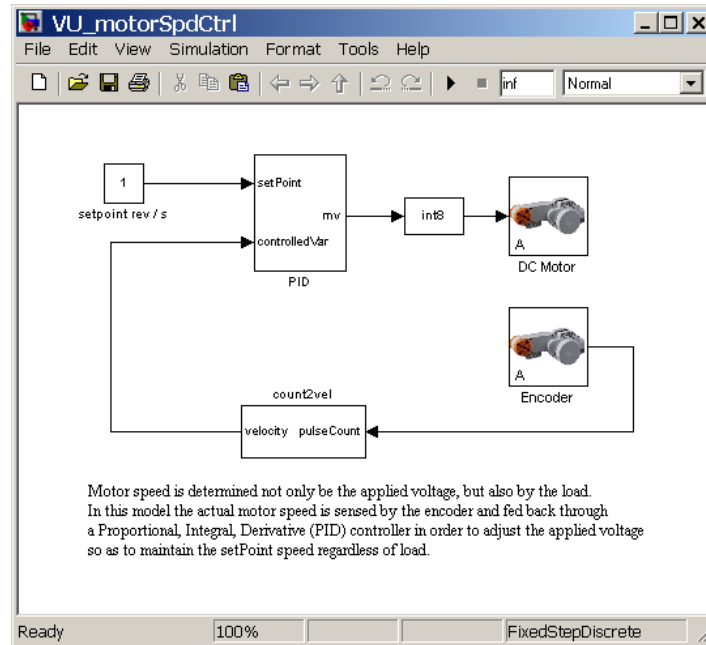

Fig. 11: The VU_motorSpdCtrl.mdl example system
1. Copy the `VU-LRT\Samples\VU_motorSpdCtrl.mdl` model into a working directory. Within MATLAB navigate to that directory, and open the model (see Fig. 11).